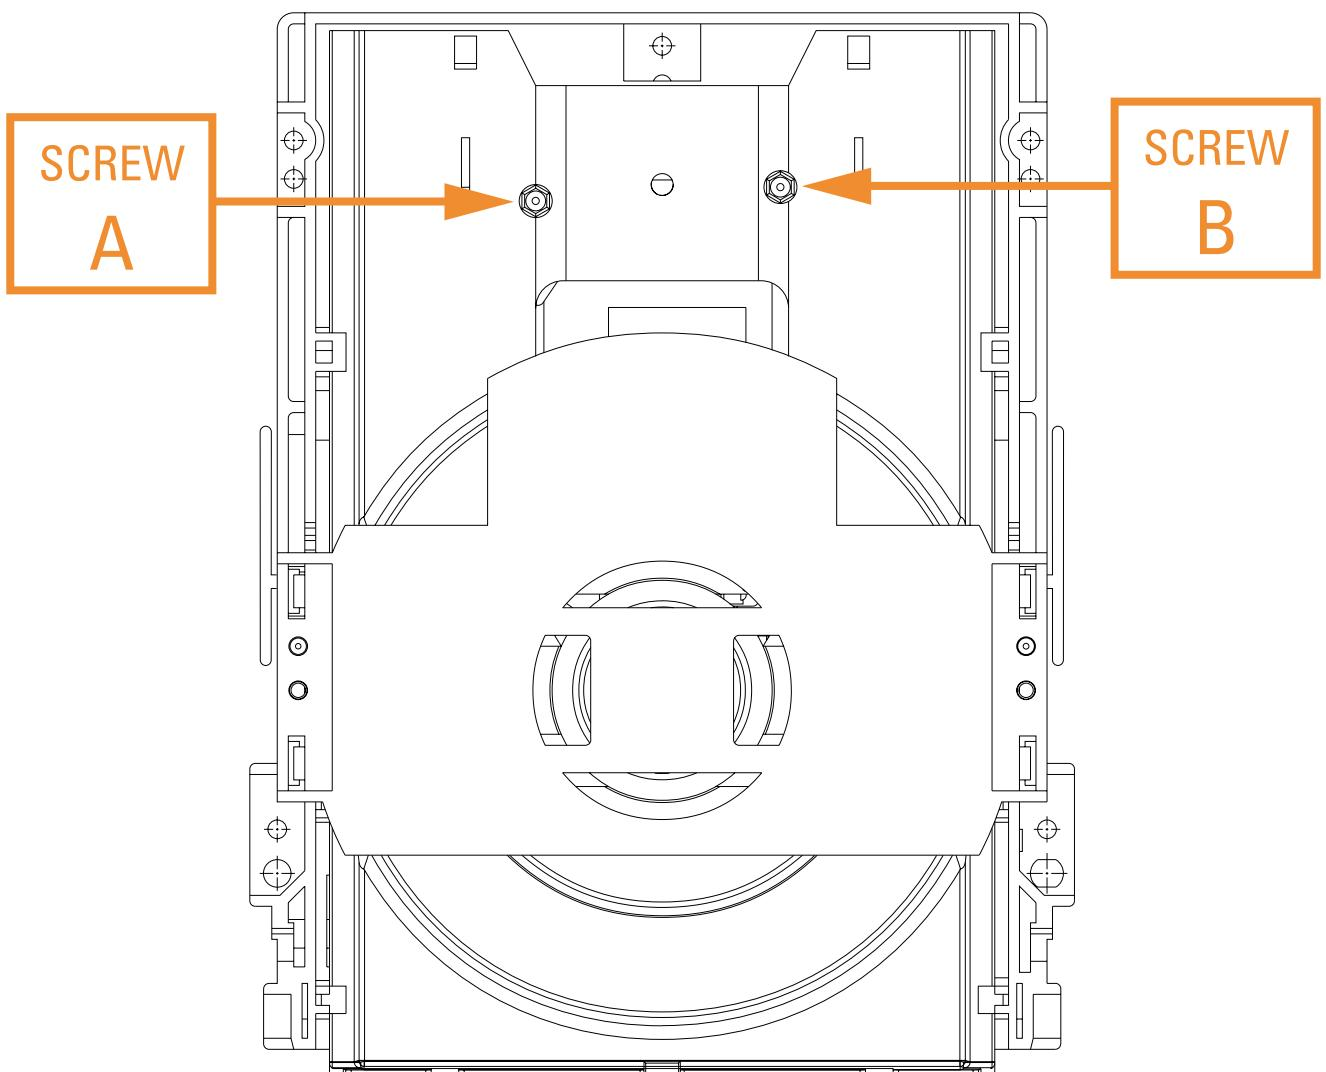

Fig. 6-2 Ass'y Deck (Top Side)
- 3) Adjust the Screws "A" and "B" (See Fig. 6-2) using a Hex screwdriver until you obtain a Flat Waveform and the picture is stable.